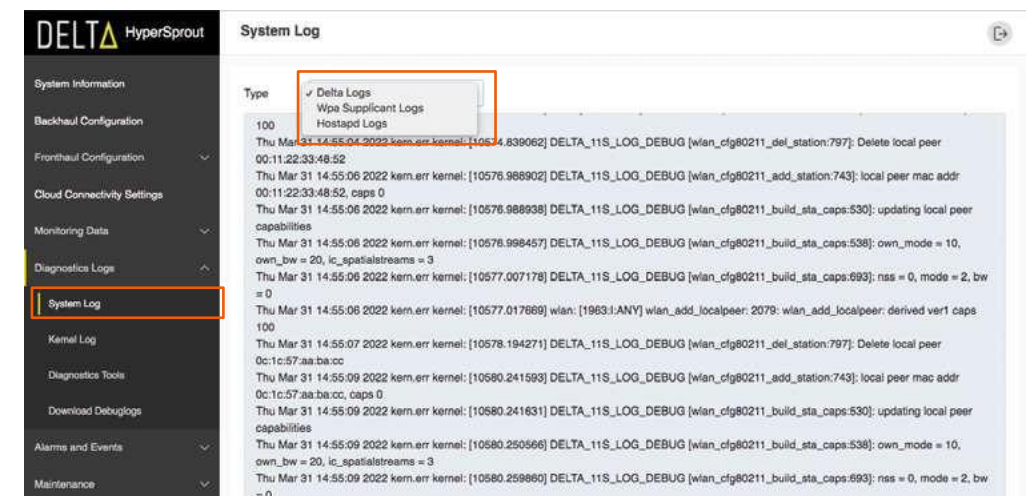

Figure 60: System Logs
- Next, select the appropriate log from the dropdown menu as shown in *Figure 60*.